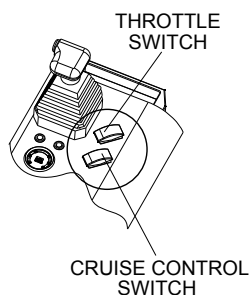

Figure 21. Engine Shutdown
1. Return the throttle switch (Figure 21) to idle and allow the engine to idle for 5 minutes.